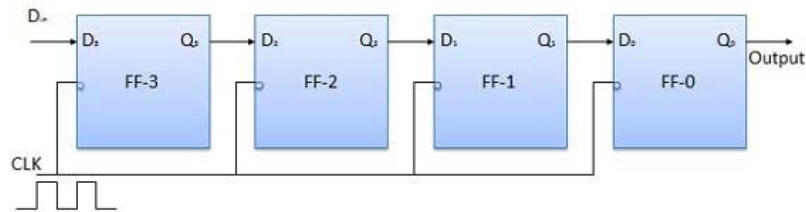

Figure 14.1. Serial Input Serial Output (SISO)
1. Construct and simulate the block diagram of SISO as shown in Figure 14.1 in Logically.